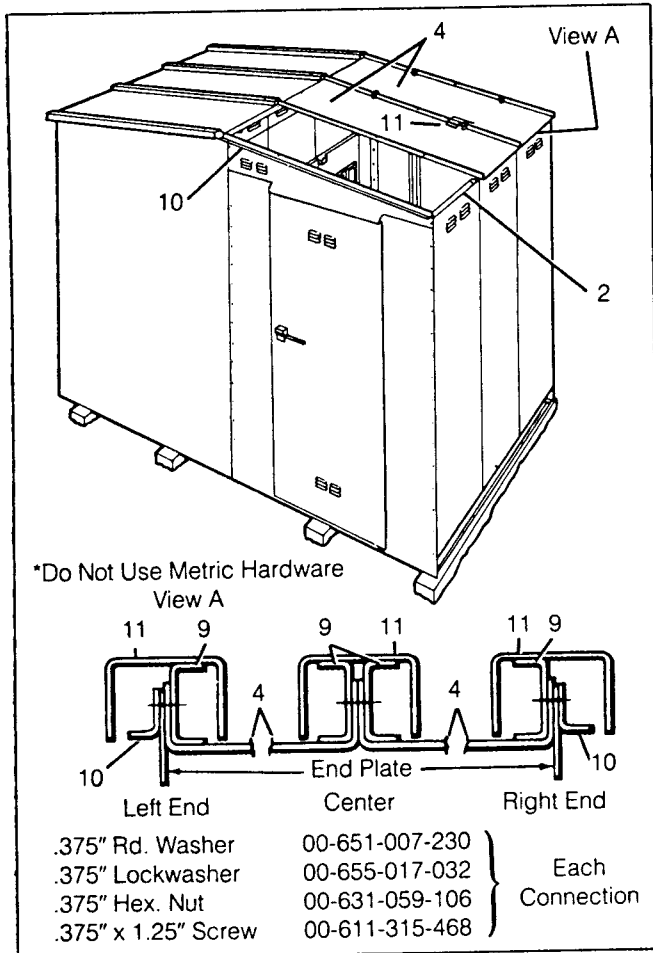

Figure 27. Roof Covers Installation — Single Aisle Layout
- See Figure 27. Put all roof covers (4) in place and bolt to aisle wall assembly (2) and roof support.